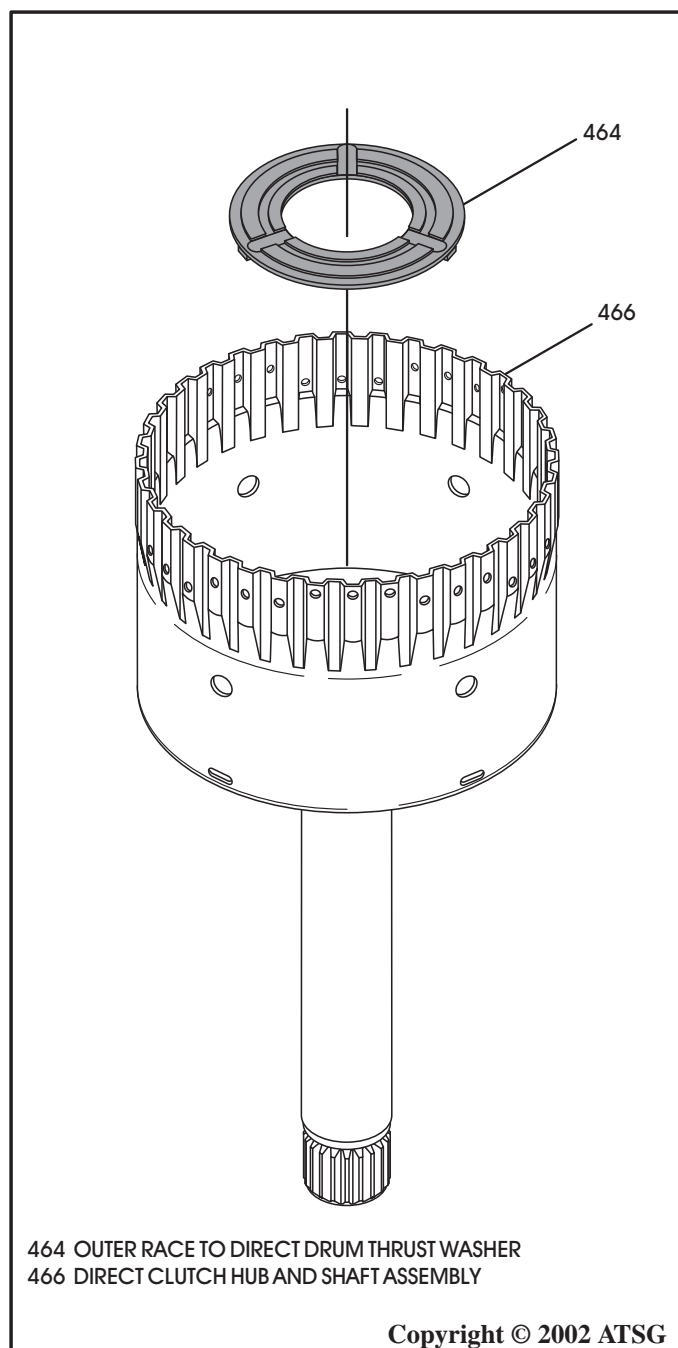

Figure 104
1. Install the direct clutch hub to forward sprag outer race thrust washer into the direct clutch hub and shaft assembly in the direction shown in Figure 104, and retain with a small amount of Trans-Jel®.